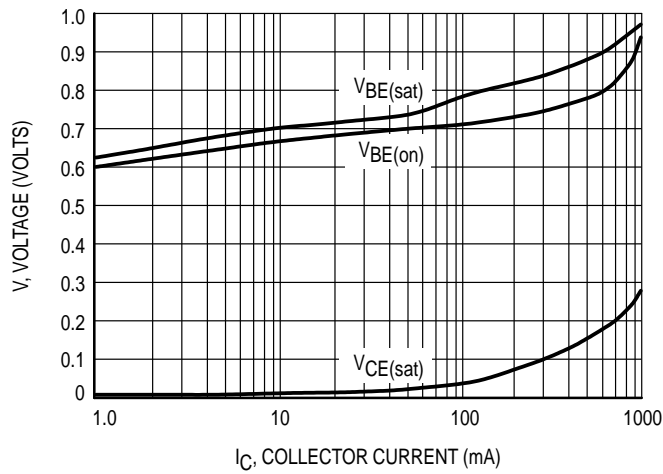

Figure 3. "On" Voltages
| Collector–Emitter Saturation Voltage (1) (Figure 3)( $I_C = -0.5\text{ A}$ , $I_B = -0.05\text{ A}$ )( $I_C = -1.0\text{ A}$ , $I_B = 0.1\text{ A}$ )( $I_C = -2.0\text{ A}$ , $I_B = -0.2\text{ A}$ )  | $V_{CE(sat)}$ | ———            | -0.25-0.30-0.65 | V                |